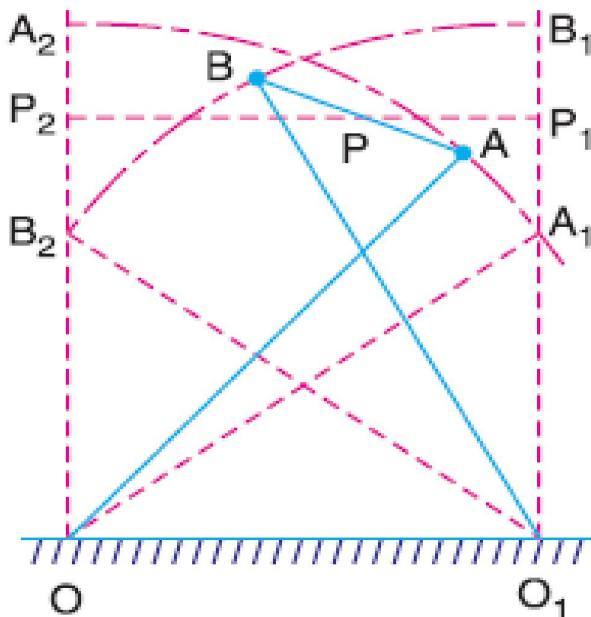

Fig. 4.8 Tchebicheff's mechanism
- It is a four bar mechanism in which the crossed links OA and O1B are of equal length, as shown in Fig. 4.8.